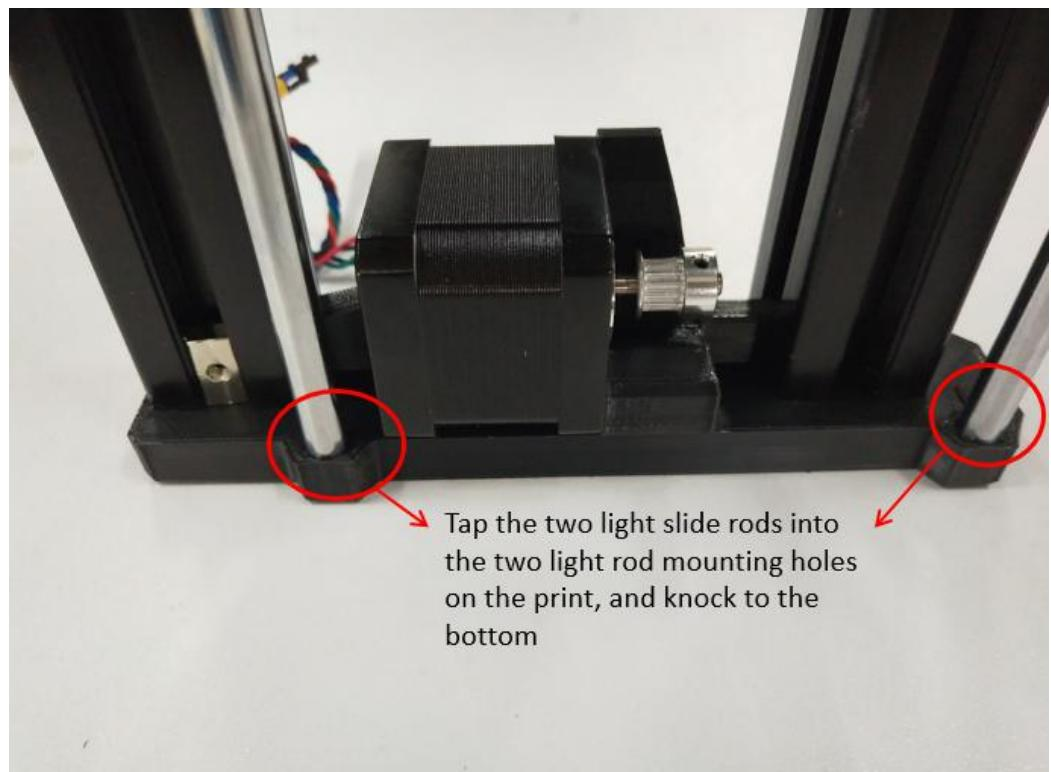

Figure 1.9.4
**Steps 1-9-4:** As shown in Figure 1.9.4, after installing the support plate, install the MINI-y-plate-rear against the slide rod to the profile. Note that the smooth rod should be inserted into the bottom of the print, the print and the profiles are close together.